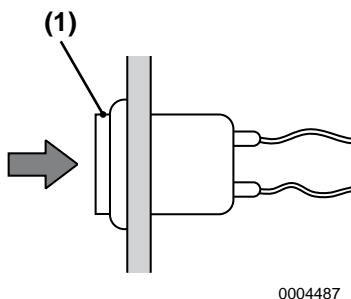

Figure 3
4. With the key in the ON position, push and hold the stop button (**Figure 3, (1)**). After the engine has stopped, turn the key switch to OFF.